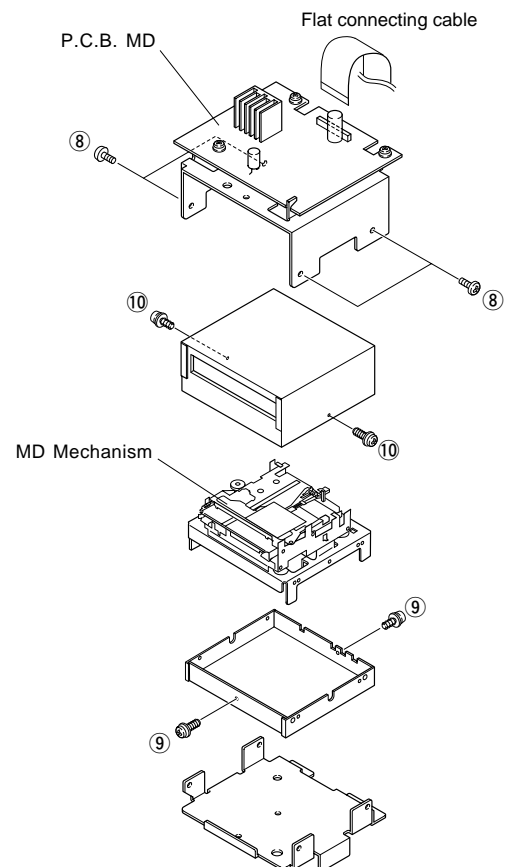

Fig. 4
- a. Disconnect the flat connecting cable in Fig. 4.
- b. Remove 4 screws ( ⑧ ) in Fig. 4.
- c. Remove 2 screws ( ⑨ ) in Fig. 4.
- d. Remove 2 screws ( ⑩ ) in Fig. 4.